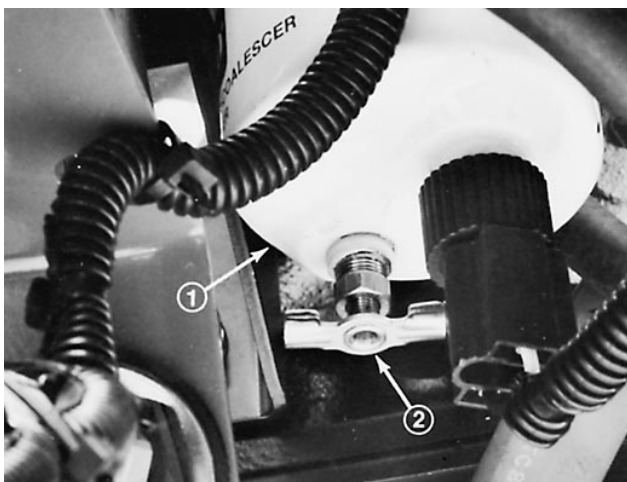

Figure 37
1. Locate the fuel filter/water separator on the lower left side of the engine and drain it daily (Fig. 37).